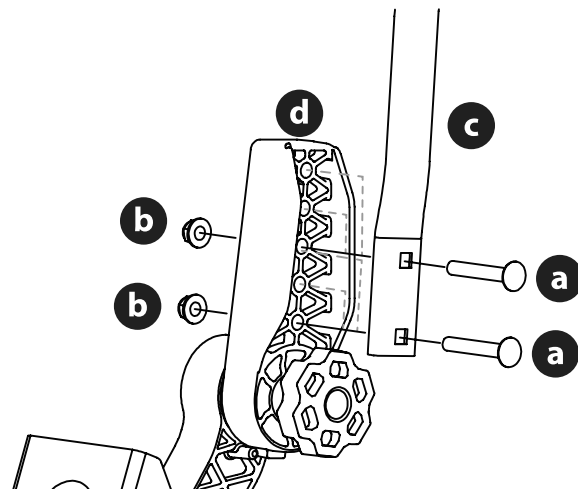

Figure 8
1. Remove the two carriage screws (a) and two flange lock nuts (b) that secure the lapbar drive control lever (c) to the upper handle adjuster (d) (Figure 8).
2. Move the lapbar drive control lever into one of three available heights and secure in place with the carriage screws and flange lock nuts (Figure 8).
4. If the lapbars do not line up after making the knob adjustment, loosen nuts (b), align lapbars and re-tighten nuts. Once this fine adjustment is made, the lapbars will align when using the knob adjustment (Figure 8 on page 9).